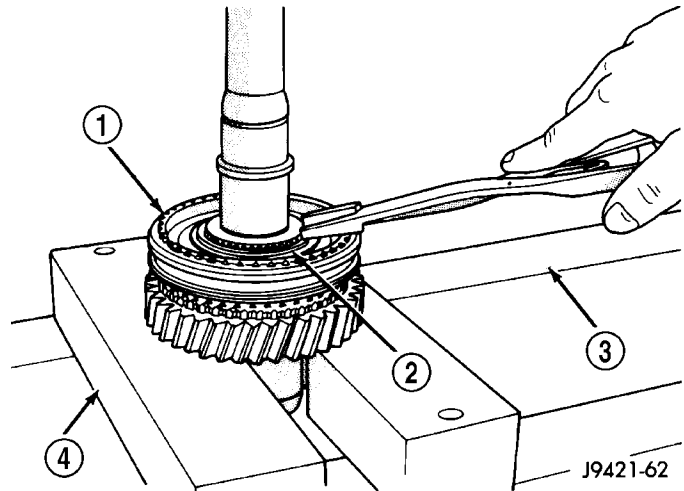

Fig. 58 FIFTH/REVERSE SYNCHRO HUB SNAP RING
(6) Install **new** fifth-reverse hub snap ring (Fig. 58) and verify the snap ring is seated.